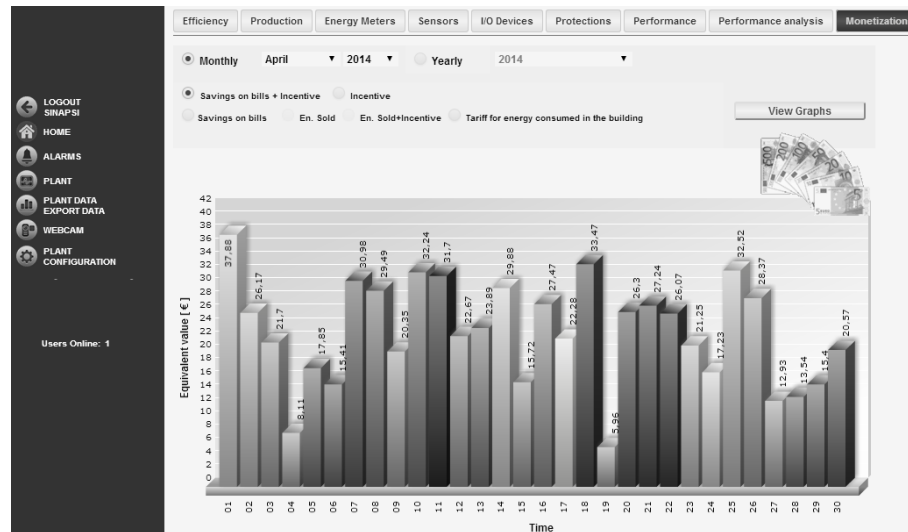

Figure179 – Economic value
Selecting *Monetization* you can read the economic data related to the system (Figure179)
- *Monthly* - displays the status of economic month selected (Figure179)
- *Annual* - View the economic incentive for the selected year (Figure179)